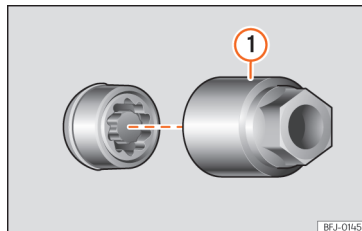

Fig. 74 Anti-theft wheel bolt with cap and adapter.
- Insert the special adapter »» » Fig. 74 ① (vehicle tools) onto the anti-theft wheel bolt and push it on as far as it will go.